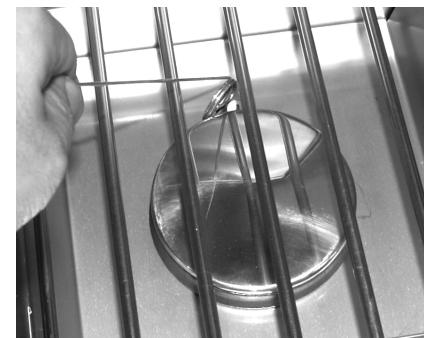

Fig. 33-2 Manual lighting
2. Insert either a burning long-barrel butane lighter, a burning long-stem match, or a burning match held by a wire extension holder through the cooking grid opening to the burner (Fig. 33-2). Hold the flame against the edge of the burner.
4. If the burner does not light within five (5) seconds of turning the control knob, **immediately depress the knob and turn the valve to OFF**. WAIT FIVE (5) MINUTES before repeating steps 2 through 4 of the MANUAL LIGHTING instructions.